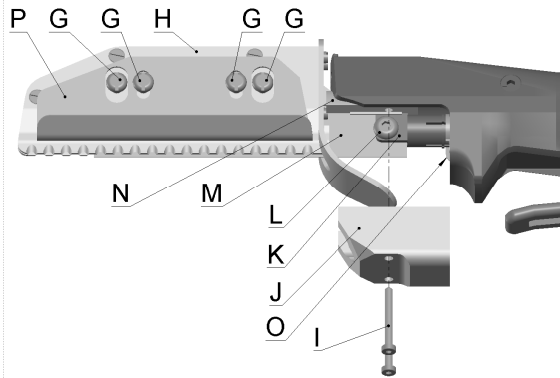

Fig. 4 Knife connection to machine EFA-S5 L
The finger guard (Item J, Fig. 4) is a safety component and prevents severe injuries to the body caused by cutting.
1. Remove the 4 screws (Item F, Fig. 4) using a slotted screwdriver and carefully pull the blade guard (Item H, Fig. 4) and supporting bracket (Item P, Fig. 4) off forwards.
2. Remove the 2 screws (Item I, Fig. 4) using an Allen key and carefully pull the finger guard away downwards (Item J, Fig. 4).
3. Release the screw (Item L, Fig. 4) using an Allen key and then remove the blade (Item M, Fig. 4).
4. Fit the replacement blade (Item M, Fig. 4), screw (Item L, Fig. 4) and supporting washer (Item K, Fig. 4).
**Important:** Make sure that the supporting washer is in the correct position (Item K, Fig. 4) and also make sure that the knife (Item M, Fig. 4) runs
smoothly. The knife must be guided in the slot on the rear bar (Item N, Fig. 4).
5. Check the screw (Item O, Fig. 4). Torque 3 Nm.
6. Fit the finger guard (Item J, Fig. 4), blade protection (Item H, Fig. 4) and support bracket (Item P, Fig. 4) again. Adjust the blade guard and support bracket with the screws (Item G, Fig. 4) to an ideal position in relation to the knife (Item M, Fig. 4).